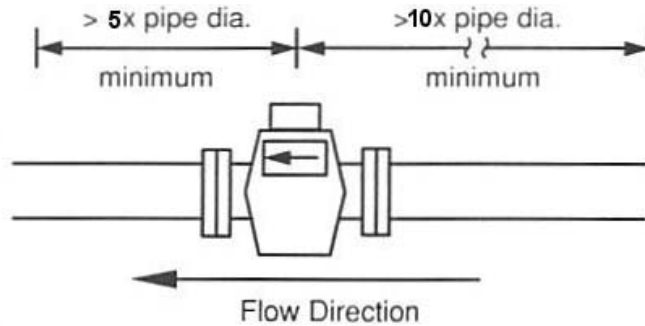

Fig 3. Straight pipe requirements
- to prevent turbulence in the flow that may hinder correct flow readings, ensure that there is at least 10 diameters of straight pipe before the sensor and 5 diameters of straight pipe after (Fig 3) e.g. for 50mm diameter pipe, the straight pipe required is **10x50mm=500mm** of straight pipe before the meter, and **5x50mm=250mm** of straight pipe after the meter.